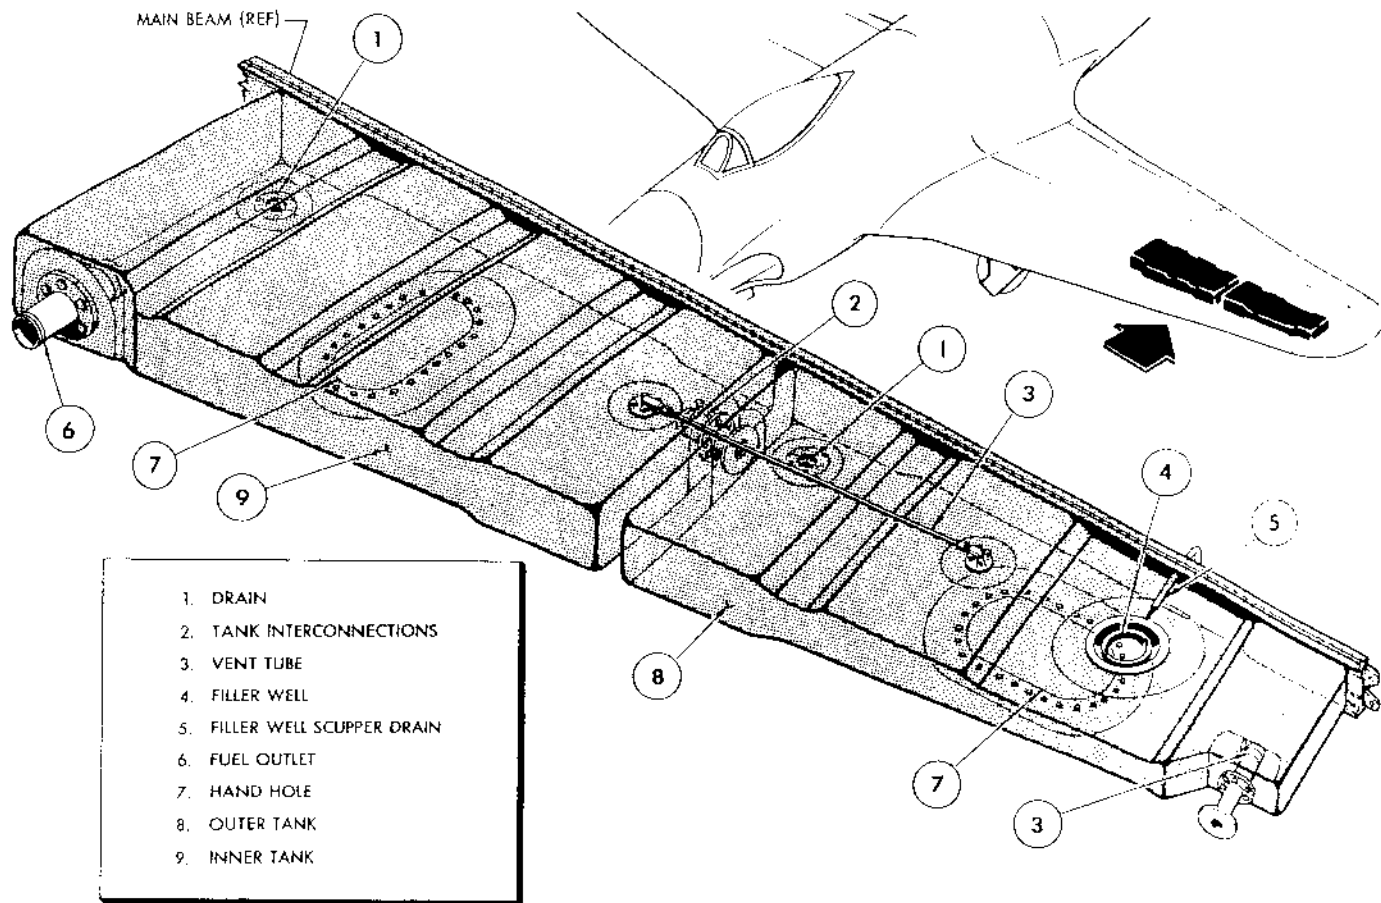

Figure 102 — Wing Outboard Tanks
(3) WING OUTBOARD AND LEADING-EDGE TANKS. (See figures 102 and 103.)